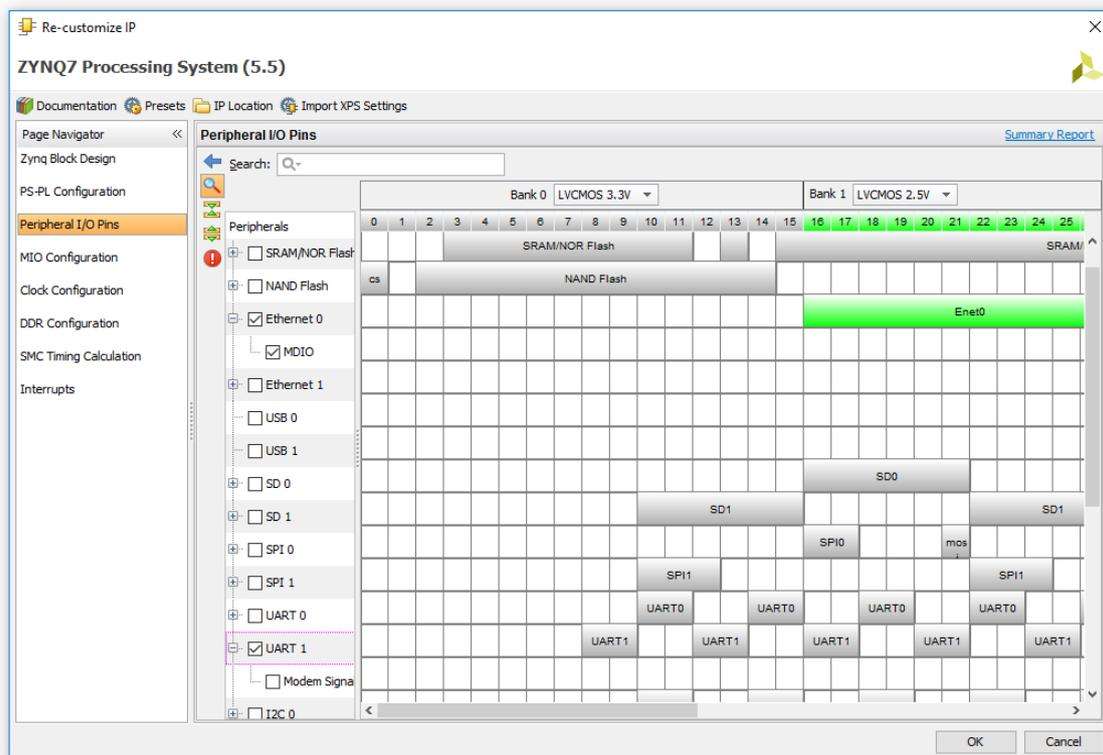

Figure 6: Peripheral I/O Pins
- In **Peripheral I/O Pins** (Figure 6), add the Ethernet0 peripheral using MDIO interface and UART1. Other peripherals can be added if needed.